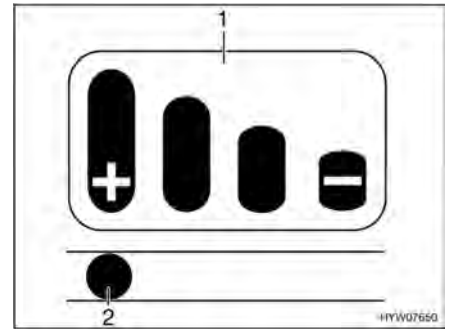

Fig. 198 Wear indicator
A wear indicator (Fig. 198) with a bar diagram (Fig. 198,1) is attached on the coupling handle.
- When the pin (Fig. 198,2) is in the longitudinal hole at the marking with the "+", the friction pads are still in good condition.